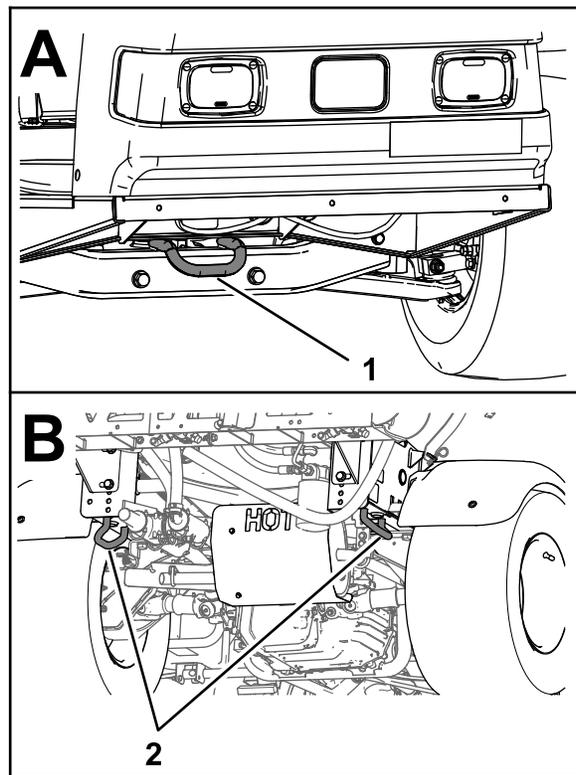

Figure 34
- Bind the machine securely to the transport vehicle; Figure 34 illustrates the tie-down loops of the machine.